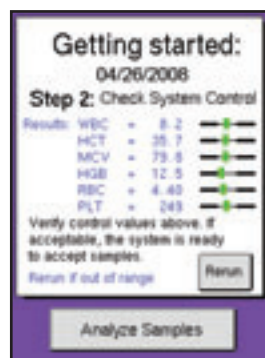

Figure 8.6
- 5 When complete, the control results are displayed (Figure 8.6). If control results are acceptable, the startup sequence is complete. Press [ANALYZE SAMPLES] to go to the main screen, and follow instructions in the following sections to analyze samples.